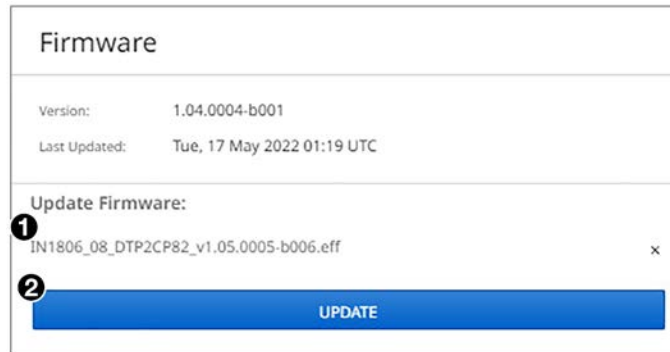

Figure 55. Firmware Update Panel with a Firmware File Selected
3. Double-click the firmware file name. The **Open** window closes, and the selected firmware file name appears in the **Update Firmware** panel on the web page (see figure 55, ❶).